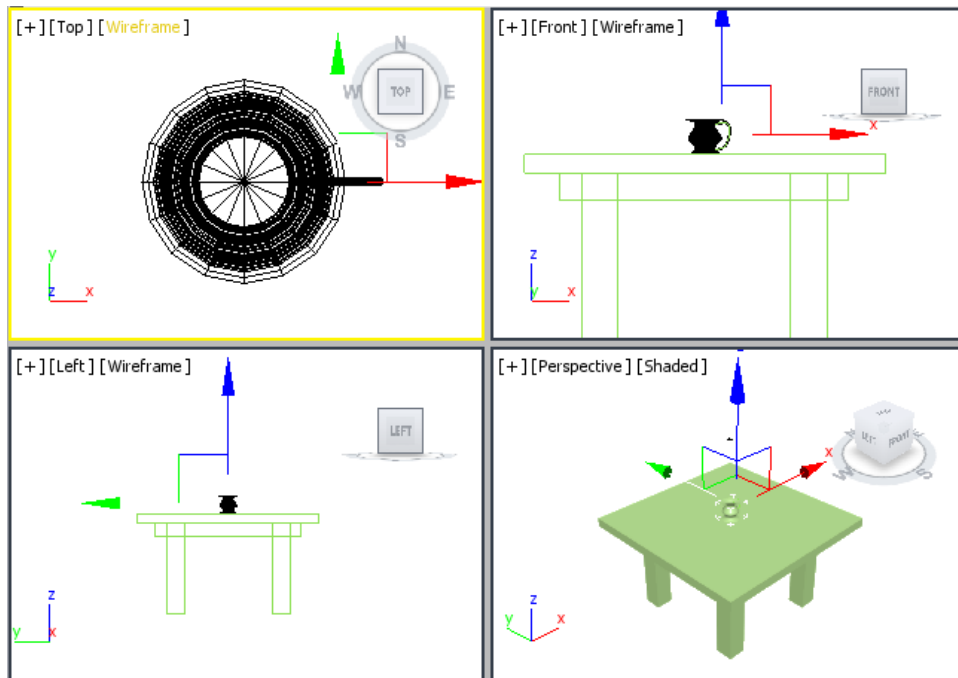

Figure 5-20 Using the boolean operation to join Handle and Jug
4. In the **Pick Boolean** rollout, choose the **Pick Operand B** button. Next, select *Jug* in any viewport. Invoke the **Select Object** tool from the **Main Toolbar** to complete the operation; *Jug* and *Handle* are joined to make a single object, as shown in Figure 5-20.